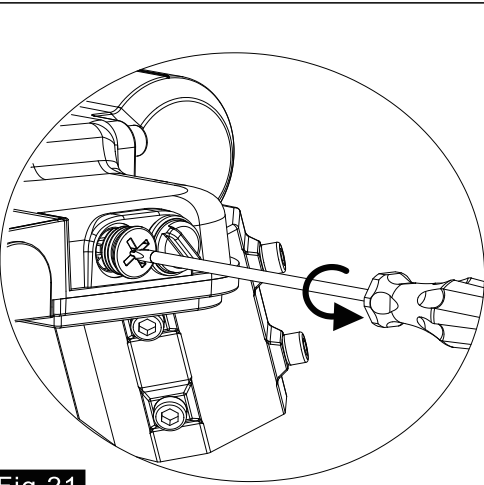

Fig.21
- 1. Remove the philips screw cover by screwdriver (Fig.21).